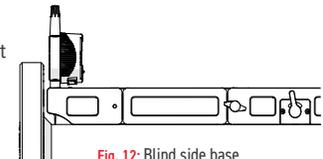

Fig. 12: Blind side base
3.5. Blind Side Base (Fig. 12)